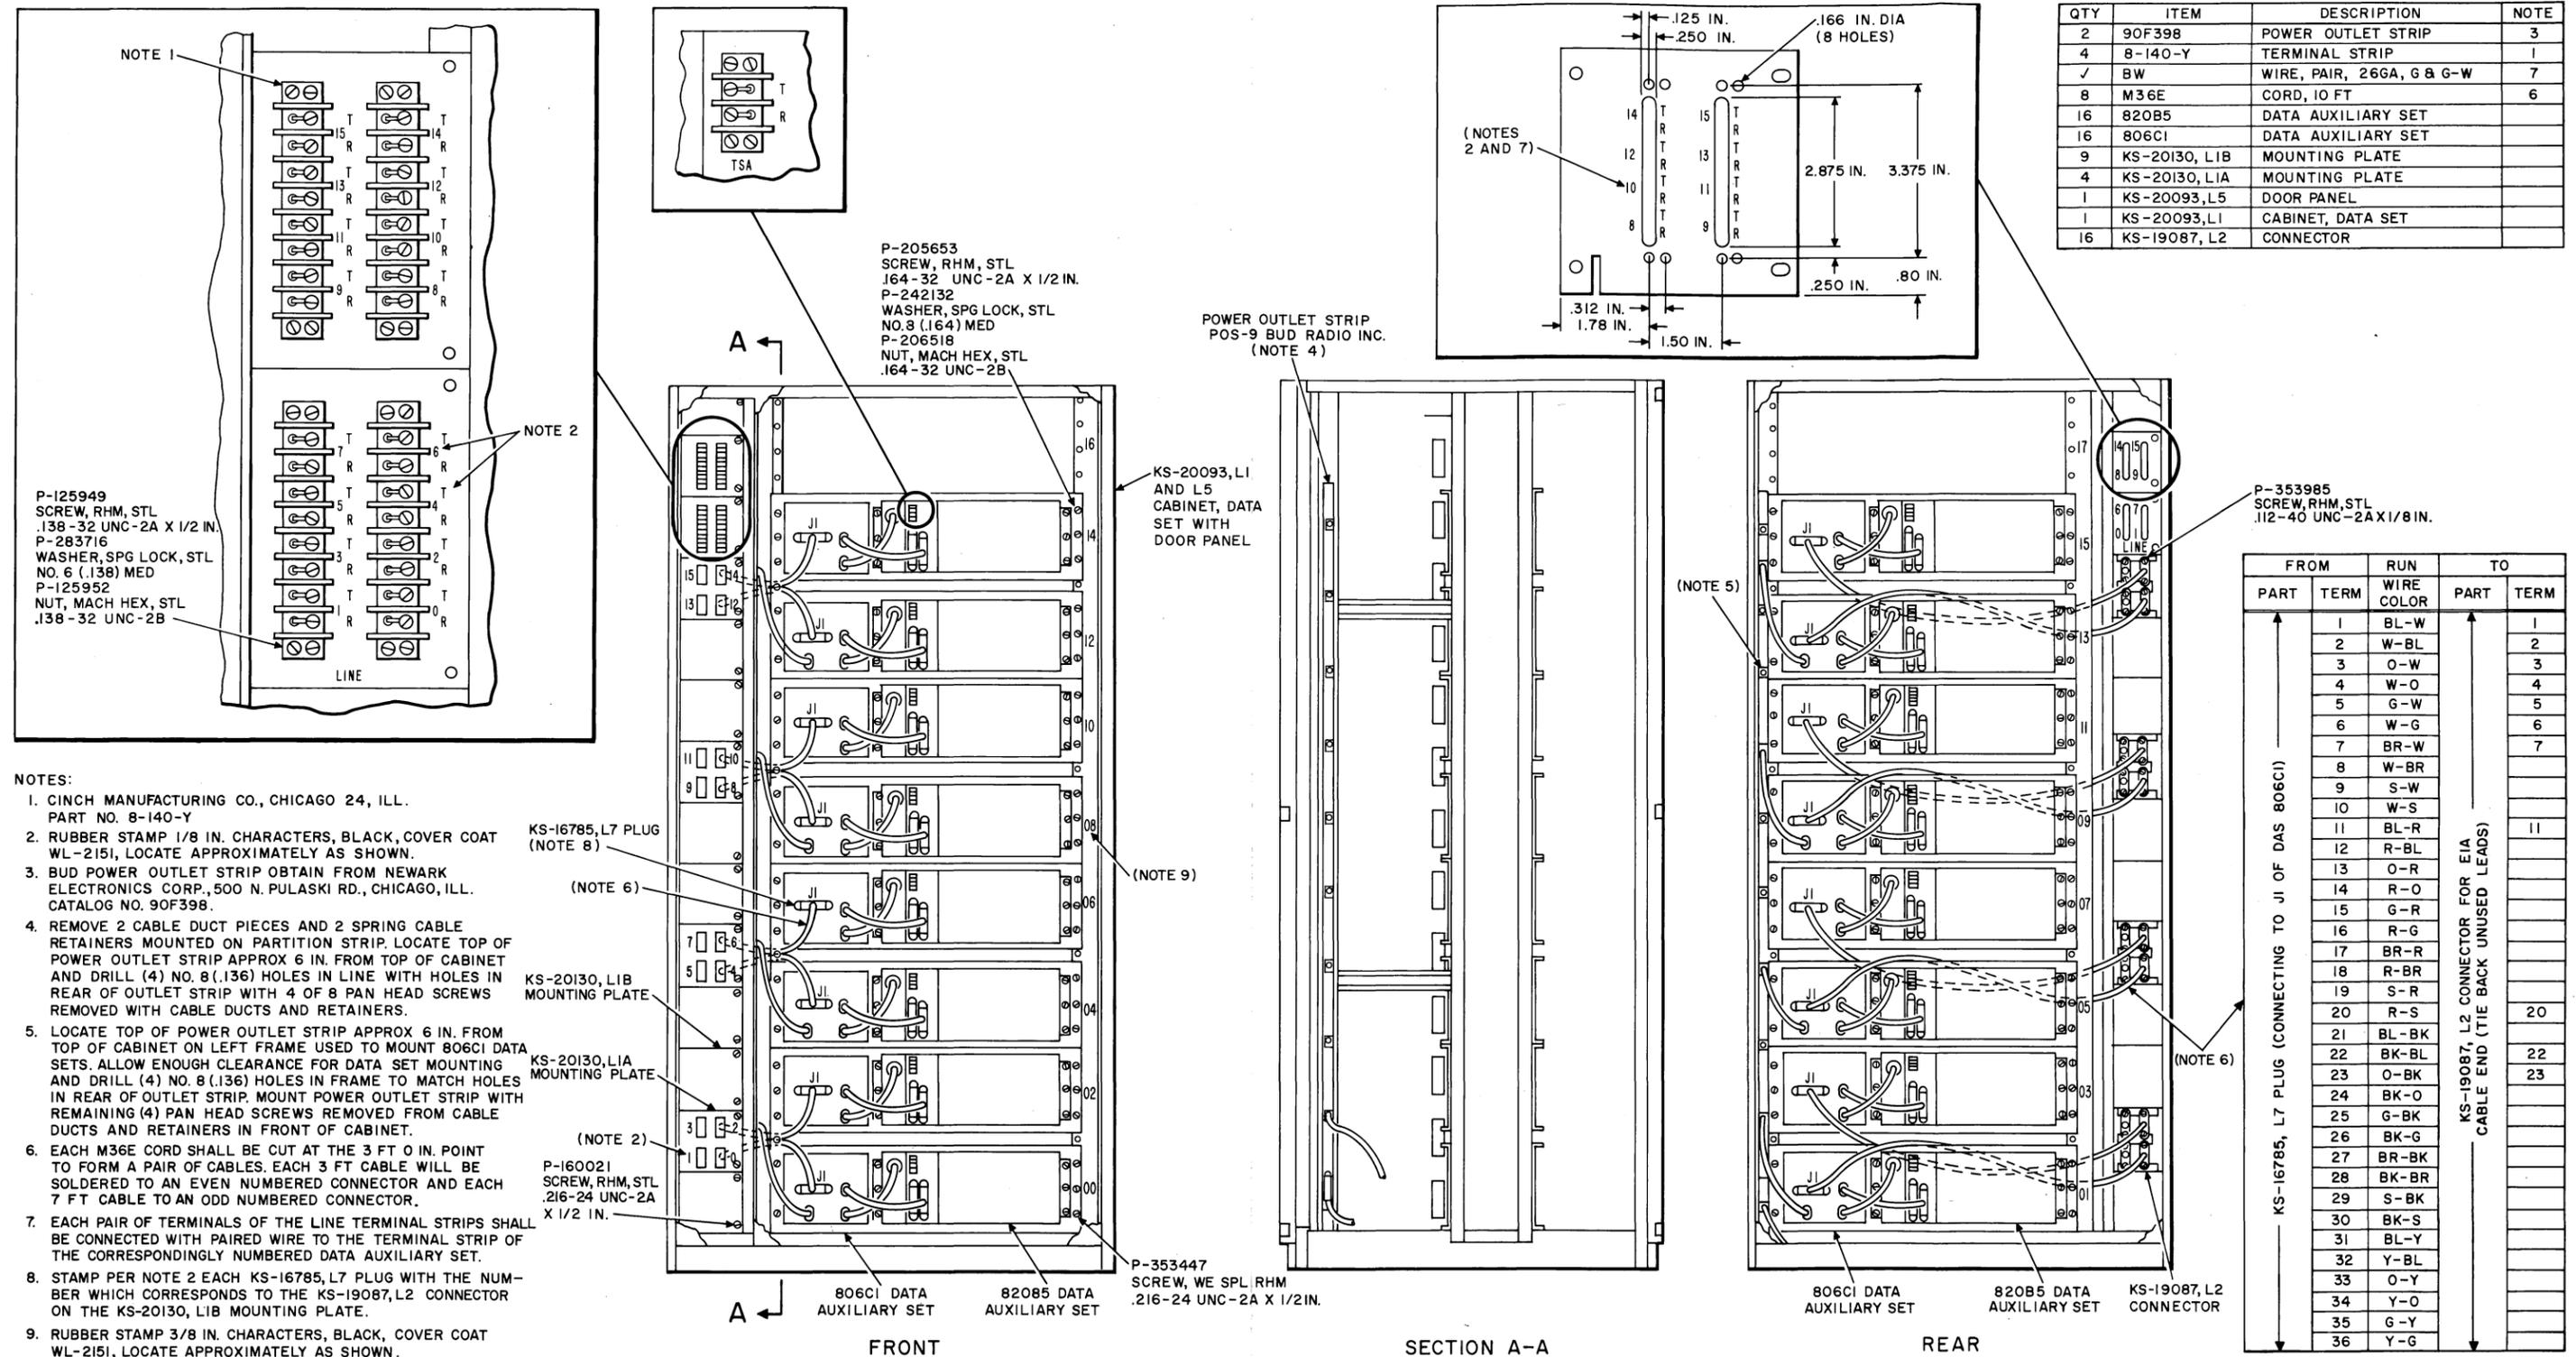

Fig. 2—Typical Installation Using the KS-20093 Cabinet
2.04 A typical installation using the KS-20093 cabinet is shown in Fig. 2. The illustration contains detailed information which may be used as a guide.